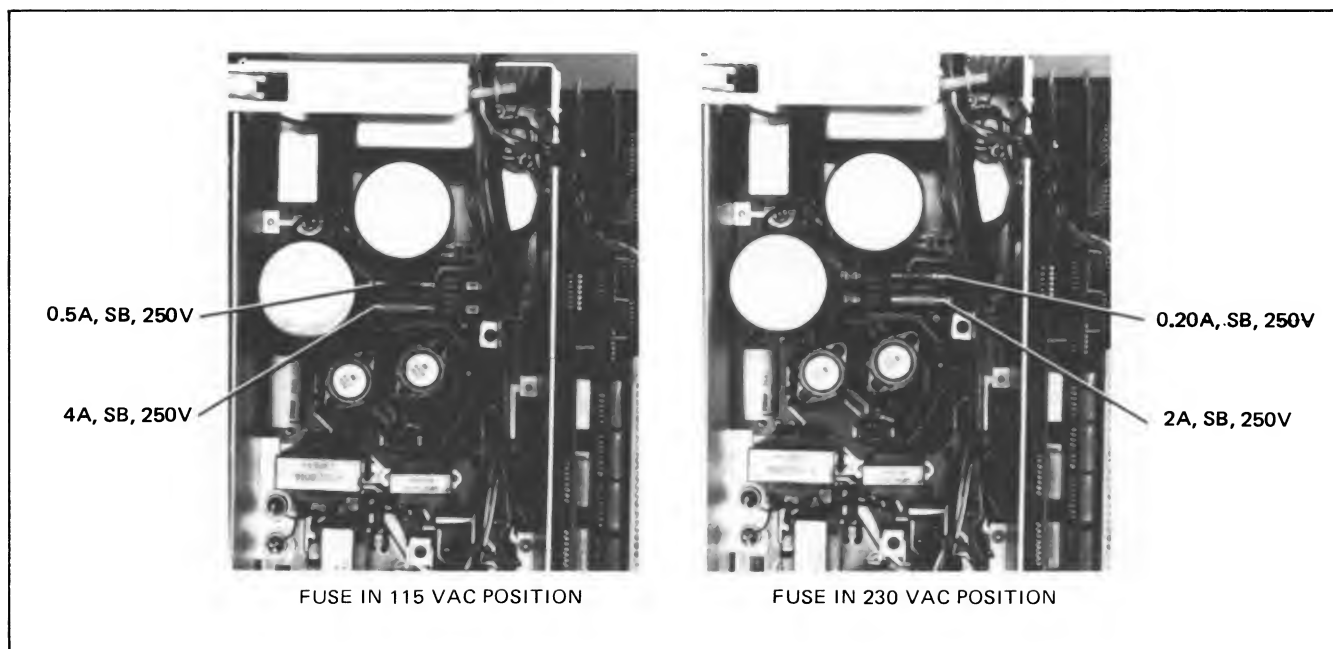

Figure 7-4. Fuse Positions for 115 VAC and 230 VAC Line Voltage
3. ( ) Select the operating voltage by inserting the proper fuses into the appropriate locations shown in figure 7-4. For 115 volts, use a 0.5A, SB, 250V fuse and a 4A, SB, 250V fuse. For 230 volts, use a 0.20A, SB, 250V fuse and a 2A, SB, 250V fuse.